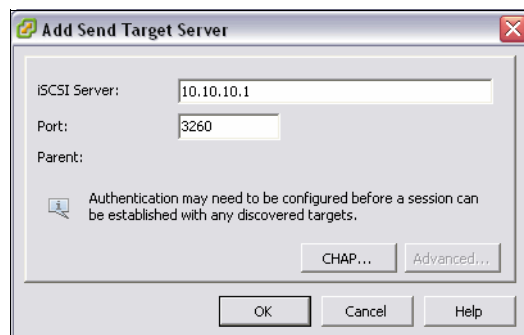

Figure 5-64 Enter a target IP address
5. To add a target, enter the target IP address, as shown in Figure 5-64. The target IP address is the IP address of a node in the I/O group from which you are mapping the iSCSI volume. Leave the IP port number at the default value of 3260 and click **OK**. The connection between the initiator and target is established.